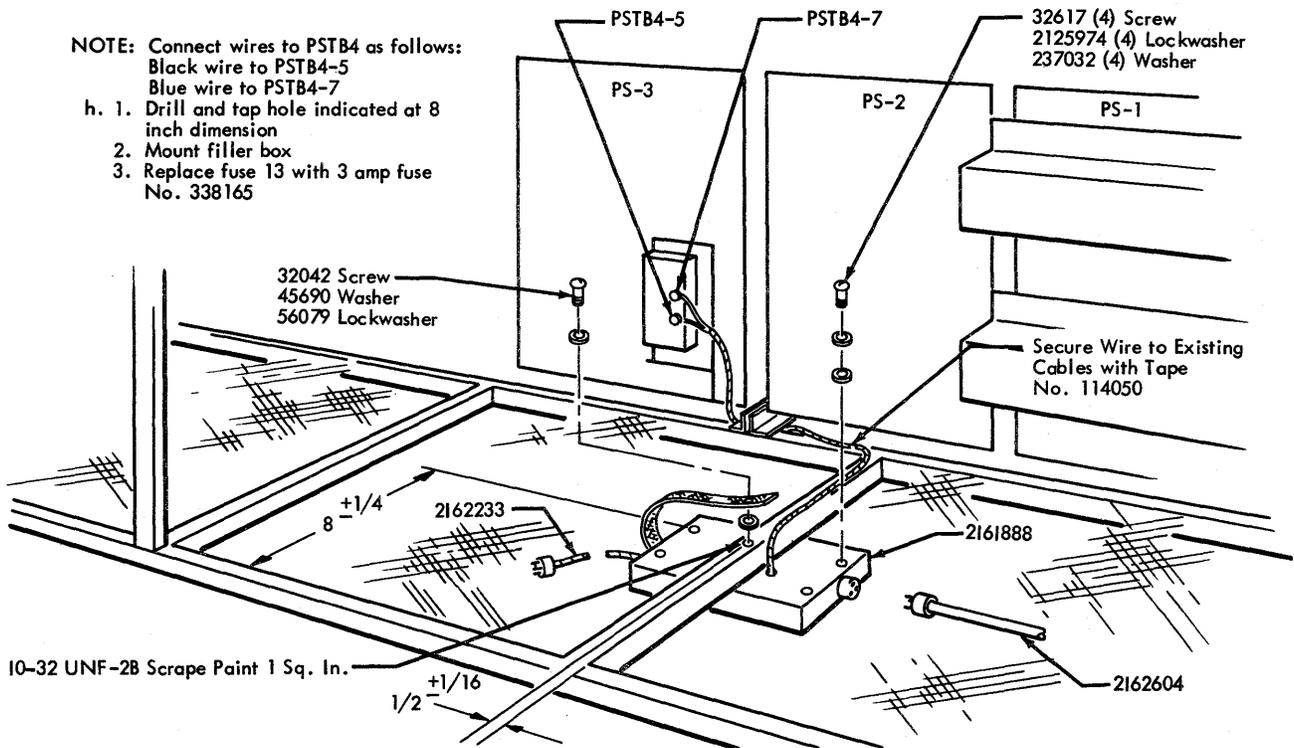

Figure 1-1. Filter Box and Cables for 1311 Power
18. If the system includes an IBM 1311 Disk Storage Drive, attach the RC filter to the bottom of the 1620 frame as shown in Figure 1-1.